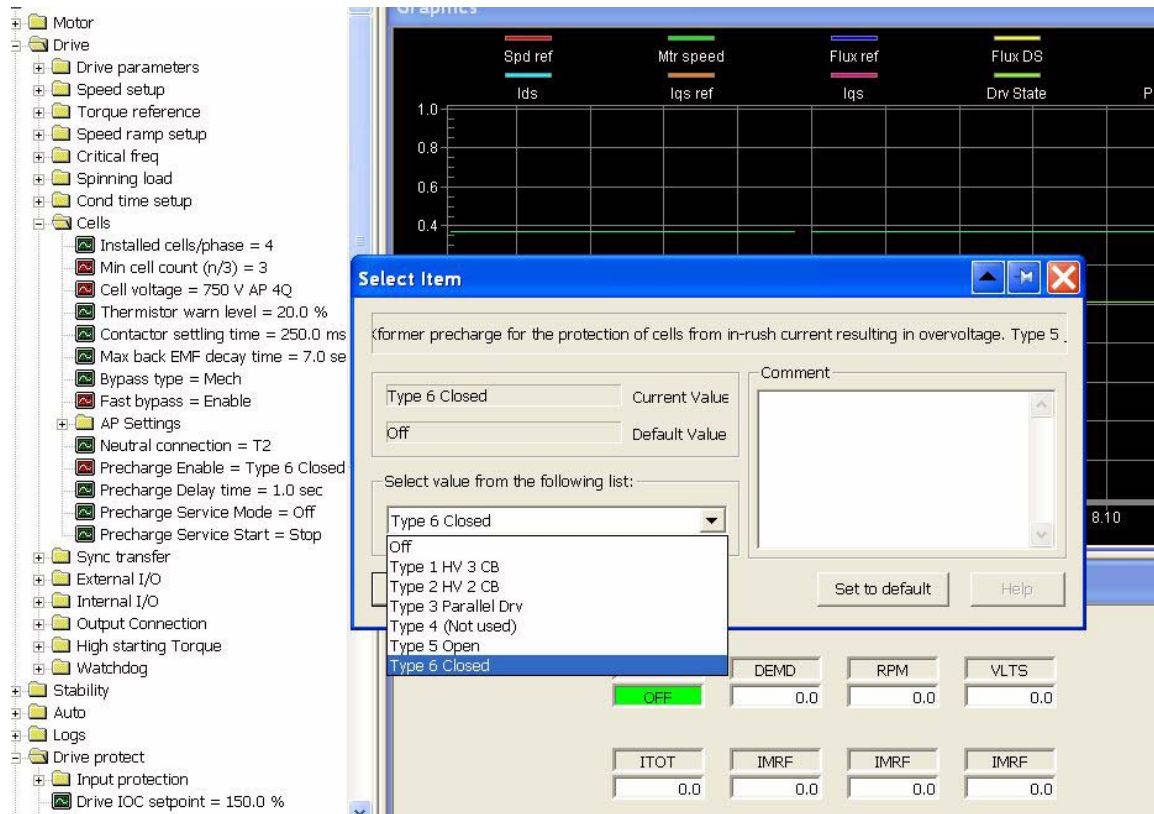

Figure 5-43: Selecting Type 6 Closed from Pick List
- Precharge Enable (ID 2635 in Cell Menu) to “Type 6 Closed” (see Figure 5-43)